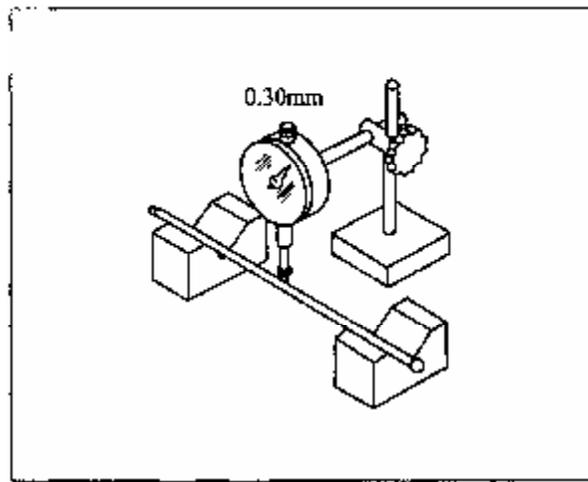

Figure 3-18 Check Run-out at Middle of Push Rod
(1) Follow figure 3-18 to check run-out at middle of push rod. The maximum value is 0.30mm. If the value exceeds the maximum, replace the push rod.
(2) Check oil passage hole of push rod for clogging. If clogging is present, use compressed air to clear up.